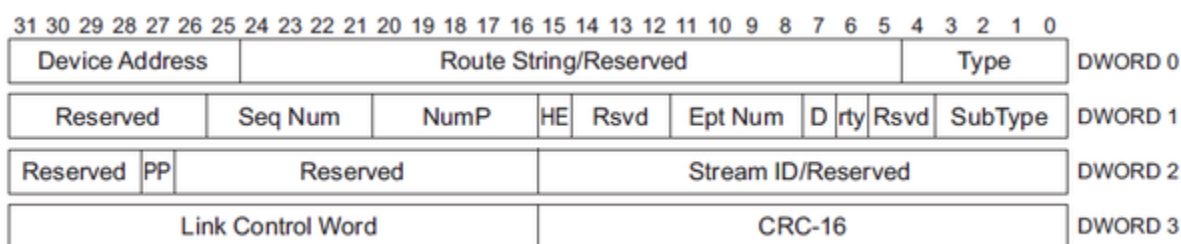

Figure 19 (above) : *Transaction Packet (TP)*
Transaction Packets (TP) are a type of header packet used to control the flow of data packets end-to-end between the host and device (Figure 19). Since these packets may traverse a number of links, each TP has a route string which is used by hubs to route the packet directly to the intended device.